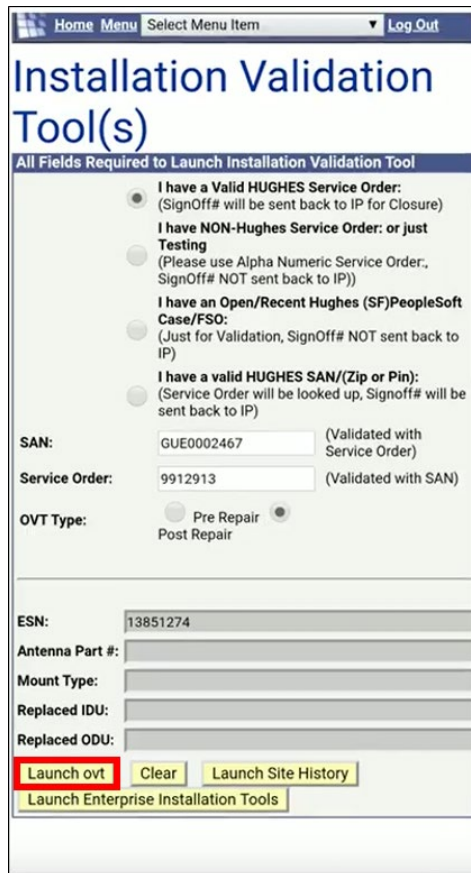

Figure 69: OVT pre-collection page
1. To open OVT in a browser on your smart device, tap the **Launch OVT** button, as shown in Figure 69.